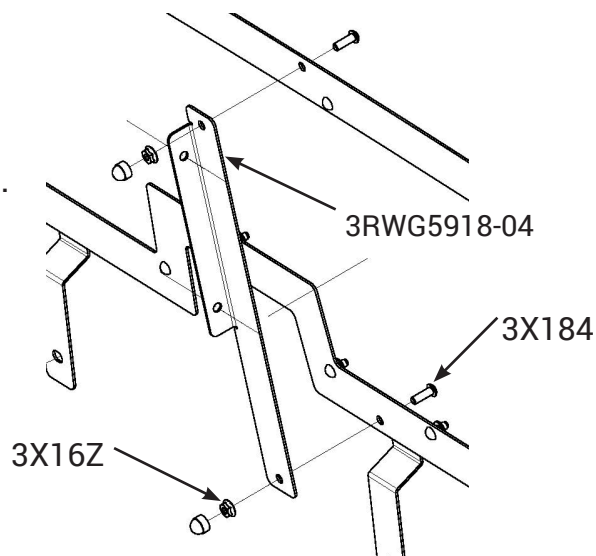

Fig. 9
- E. Fasten rear center bracket (3RWG5918-04) to frame using socket head cap screw (3X184) and nut (3X16Z). (See Fig. 9)